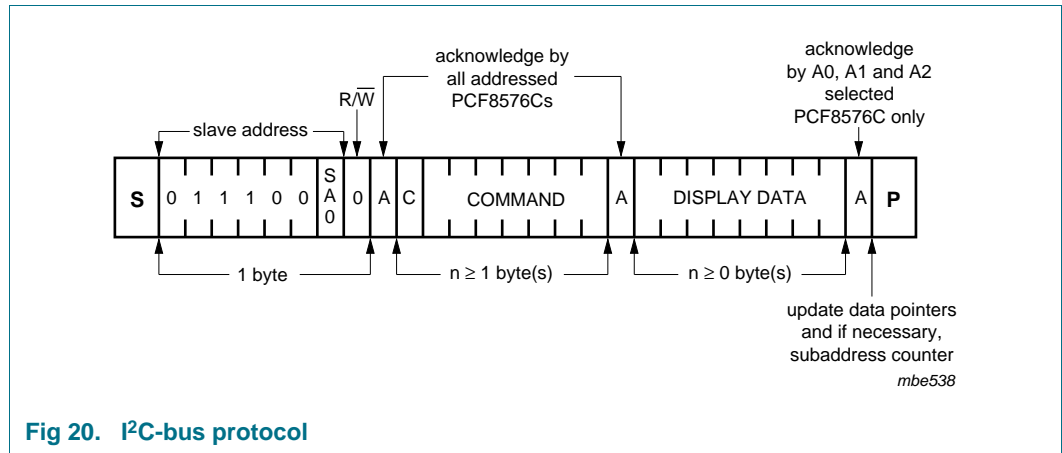

Fig 20. I2C-bus protocol
The I2C-bus protocol is shown in Figure 20. The sequence is initiated with a START condition (S) from the I2C-bus master which is followed by one of the two PCF8576C slave addresses available. All PCF8576Cs with the corresponding SA0 level acknowledge in parallel with the slave address but all PCF8576Cs with the alternative SA0 level ignore the whole I2C-bus transfer.